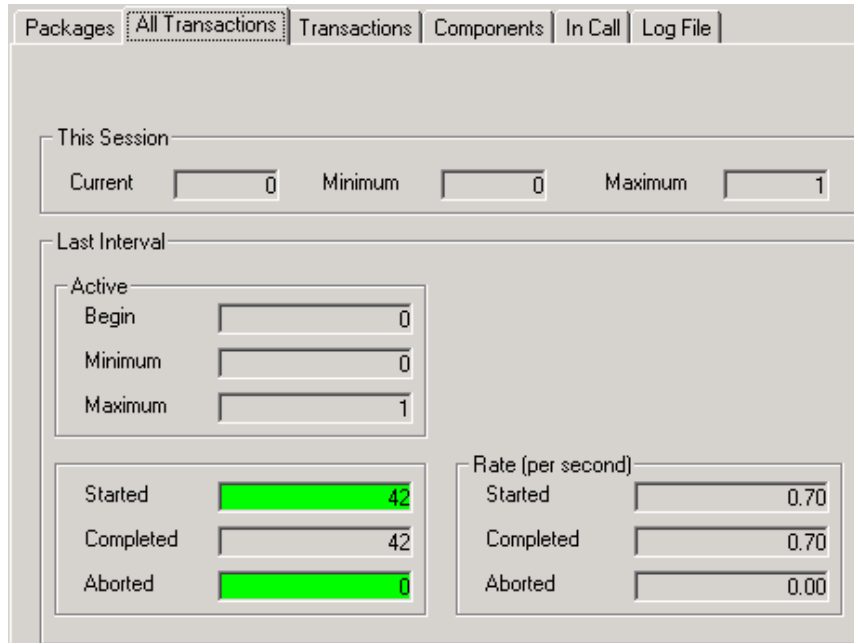

Figure 12
3. Next select the **All Transactions** run-time panel. The All Transactions runtime panel displays summary metrics about the transactions on your Agent machine. All transactions are included — not just those that are explicitly marked transactional (see Figure 12).